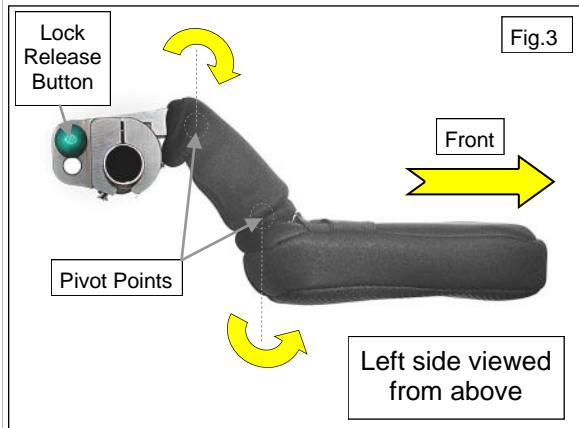

Fig.3
- With the clamp assembled onto the backrest frame (with or without the wrap-around canvas 22mm dia. only), position at the height required and initially suggested in the forward direction Fig.3. Tighten both main clamping screws Fig.2, just sufficient to maintain the clamp's position.
- To enable the correct lateral, rotational position, for the Pad, Fig.3, pivot points are located at each end of the Pad Connecting Links, Figs.5 & 6. (It is recommended that any adjustments are made on one side at a time)